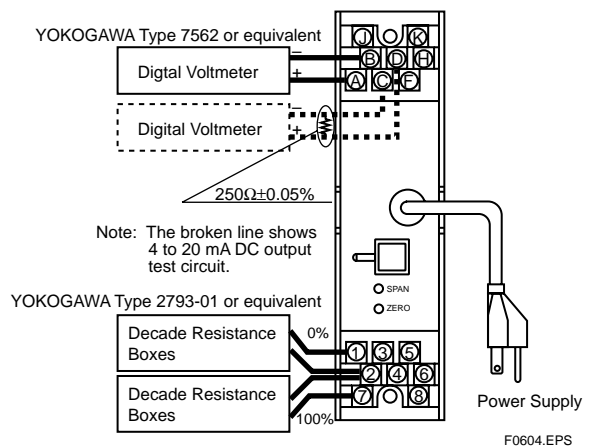

Figure 6-4 DC Potentiometer Input Converter Adjustment
- (a) Connect the test equipment corresponding to each input referring to Figure 6-1 through Figure 6-4.